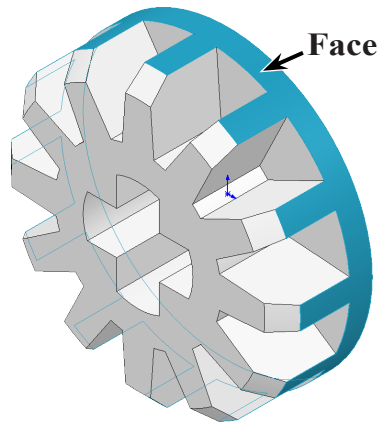

Fig. 34
Step 2. In the Mate Reference Manager set: under **Primary Reference Entity** click **cylindrical face**, Fig. 34 click OK ✓.